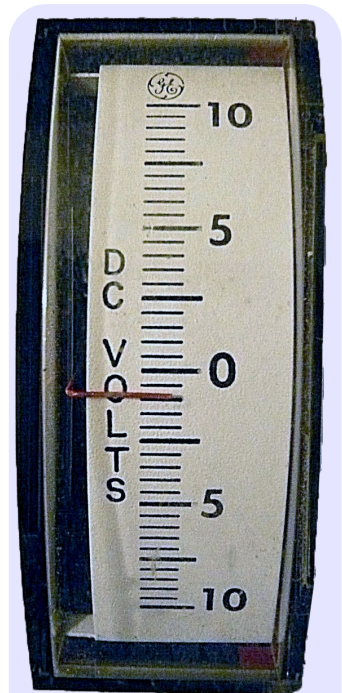

Fig. 2 - Type 2 galvanometer
2) those whose axis is horizontal, parallel to the dial and whose needle moves vertically (Fig. 2 and dial type 1 of Fig. 4). Scales are vertical lines on a curved dial;